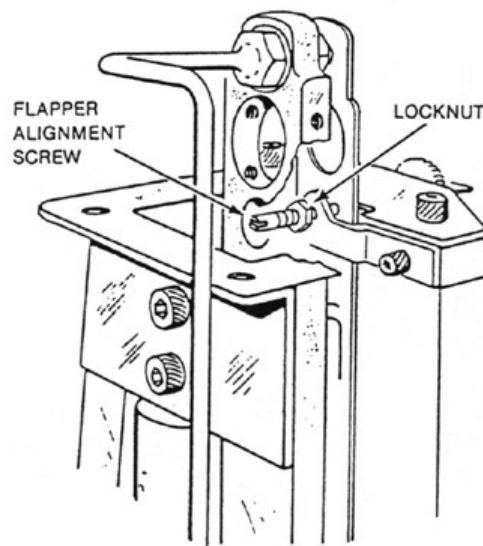

Figure 16.
6. Loosen flapper alignment screw locknut and adjust screw so that output is 20.0 kPa or 3 psi. See Figure 16.